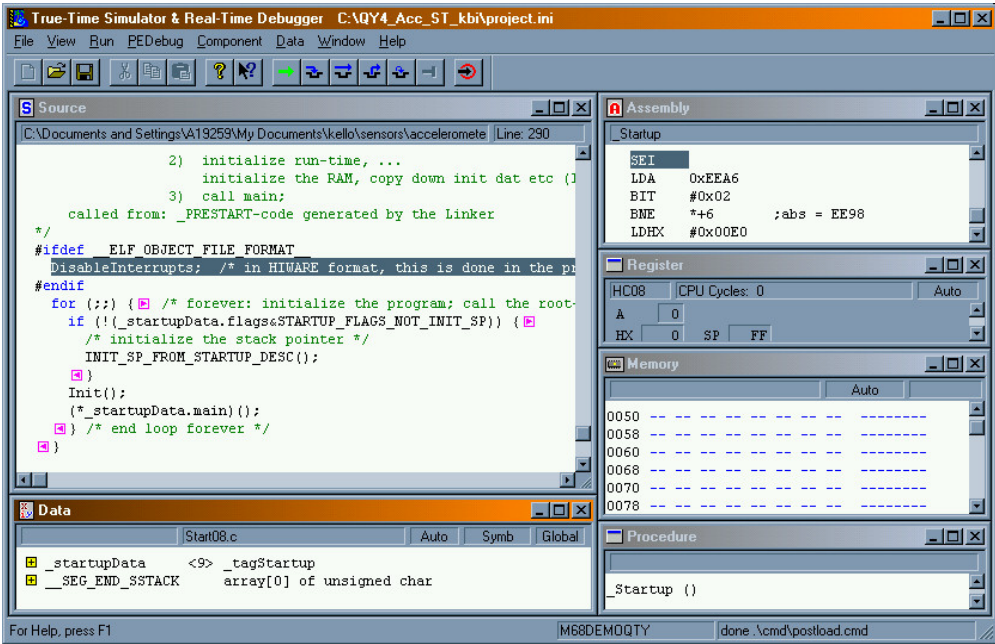

Figure 1-7. True-Time Simulator and Real-Time Debugger Window
- Click the Debug icon (green arrow) in either the CodeWarrior menu bar or in the project window to start the debugger. The True-Time Simulator and Real-Time Debugger Window opens up. See Figure 1-7.